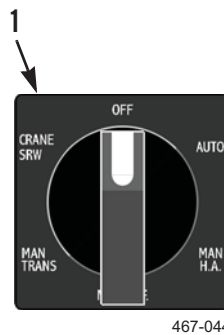

Figure 5. MODE Switch Set at OFF.
- With engine at idling speed, set MODE switch (Figure 5, Item 1) to OFF.